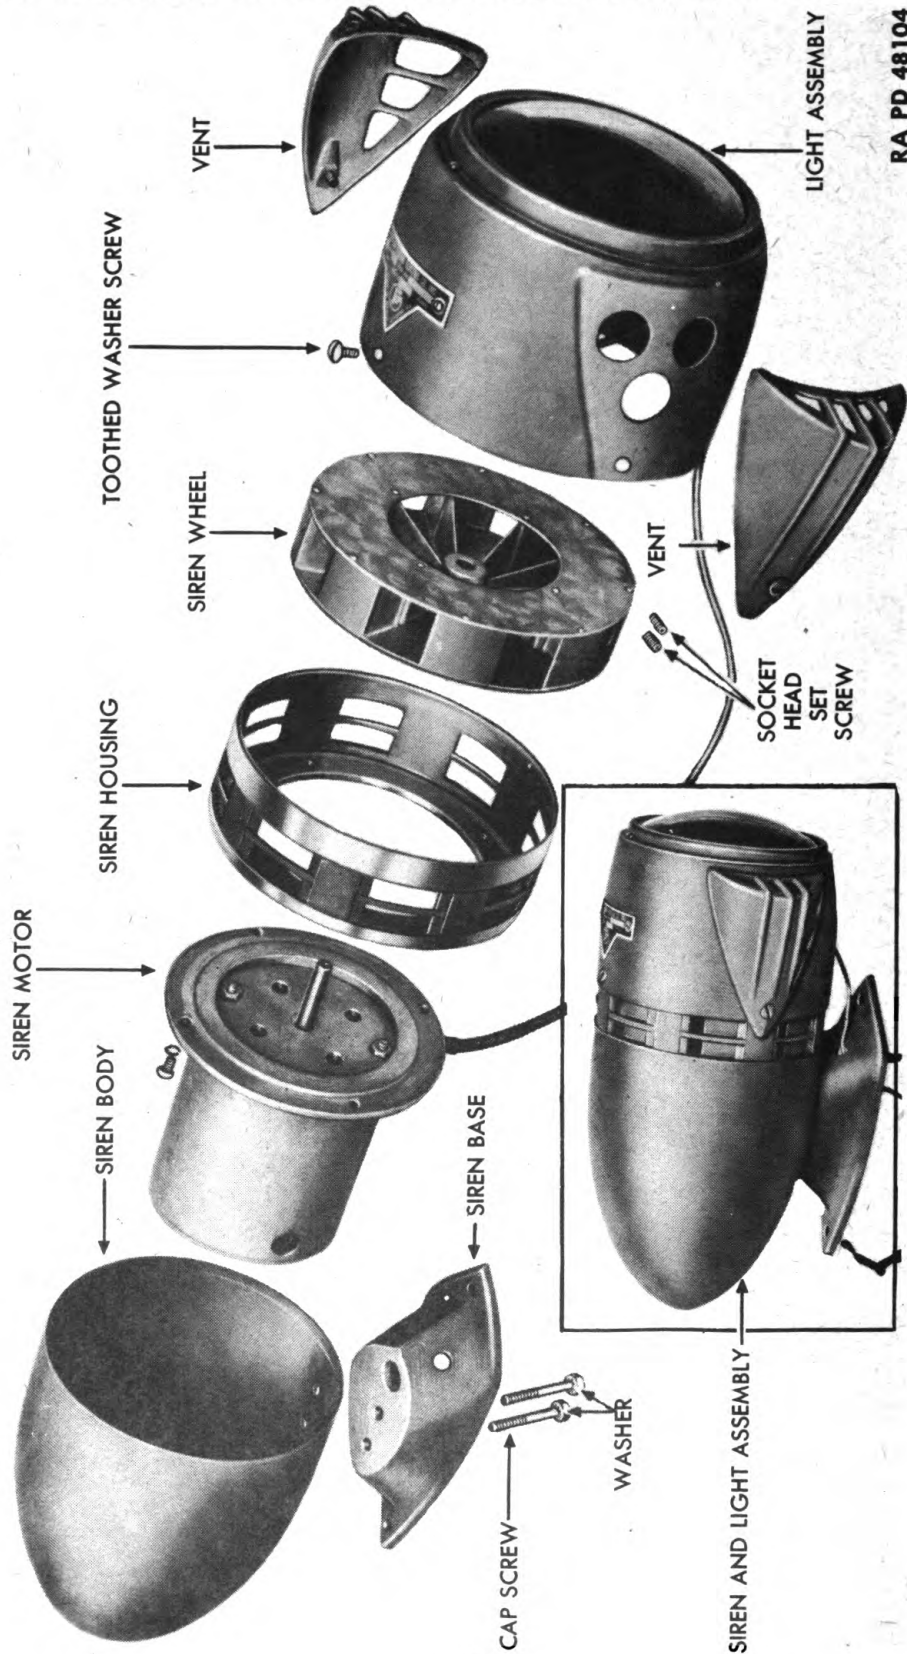

Figure 72 — Siren and Light Subassemblies
98. DISASSEMBLY INTO SUBASSEMBLIES (fig. 72).
c. Assembly (figs. 72 and 73).